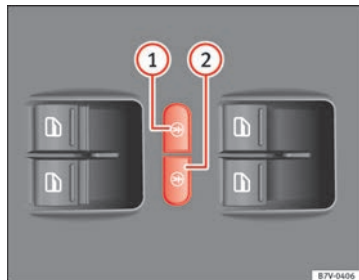

Fig. 52 In the driver door: electric child safety locks buttons
The electric child safety lock avoids opening and locking of the sliding door and its electric windows from the inside so that children cannot accidentally open the door while the vehicle is being driven. Using the left-hand side → Fig. 52 ① or right-hand side ② button, the childproof lock is activated on the left hand side or right-hand side respectively.
To switch system on:	Press the button → Fig. 52 ① o ②.